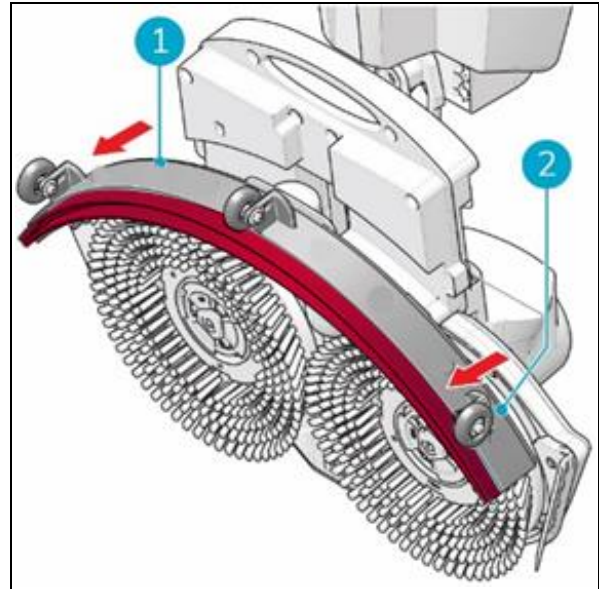

Figure 35
3. Pull on the left side of the squeegee (Figure 35, pos 1) to remove it.